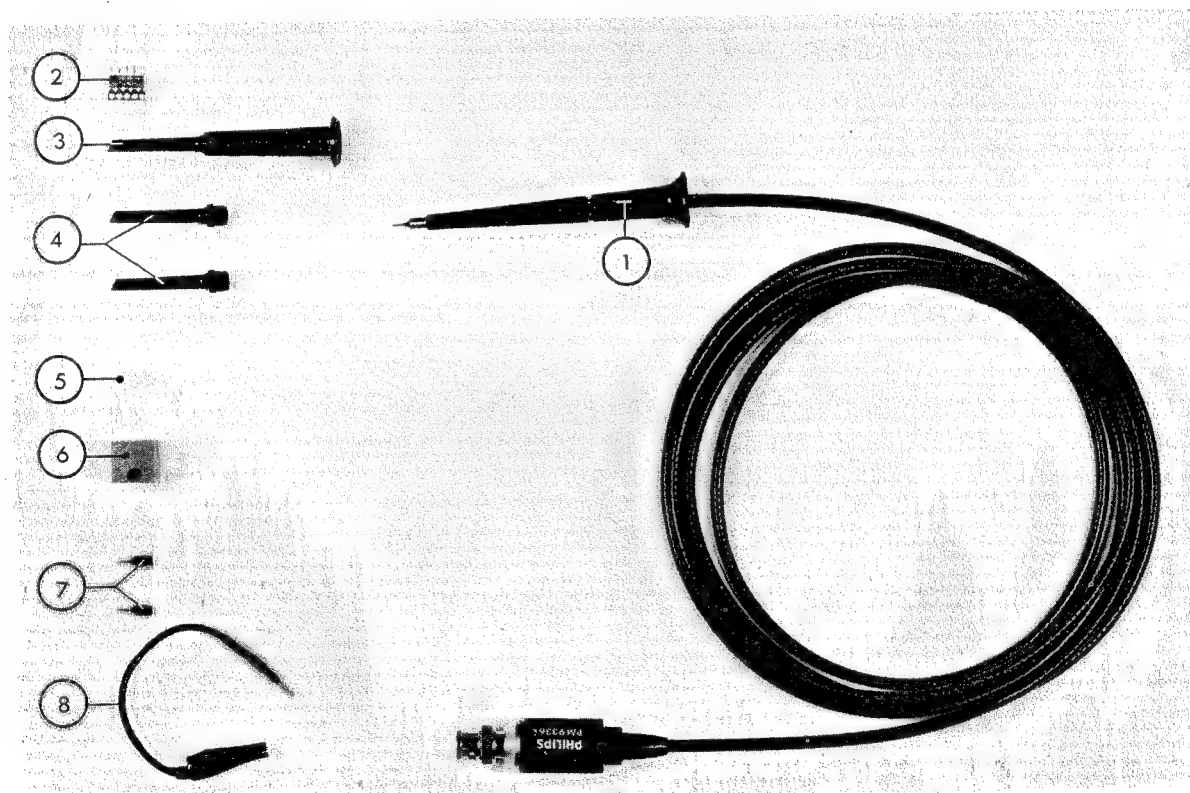

Fig. 3.26. Attenuator probe set PM 9336 (PM 9336L)
1 probe assembly	Fig. 3.26. item 1
5 soldering terminals	Fig. 3.26. item 2
1 test hook	Fig. 3.26. item 3
2 spare test hook sleeves	Fig. 3.26. item 4
1 protective cap	Fig. 3.26. item 5
1 probe holder	Fig. 3.26. item 6
2 probe tips	Fig. 3.26. item 7
1 earthing cord	Fig. 3.26. item 8
### 3.5.8. MULTI-PURPOSE CAMERA PM 9380 (Fig. 3.26.)